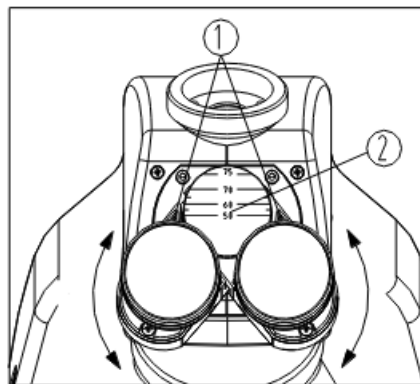

Fig. 13
1. When observing with two eyes, hold the base of the eyetubes and rotate them around the axis until there is only one field of view. “ ”mark ① on the eyetube base points to the scale② of interpupillary indication, means the value of interpupillary distance (see Fig. 13). The adjustable range is 50~75mm.